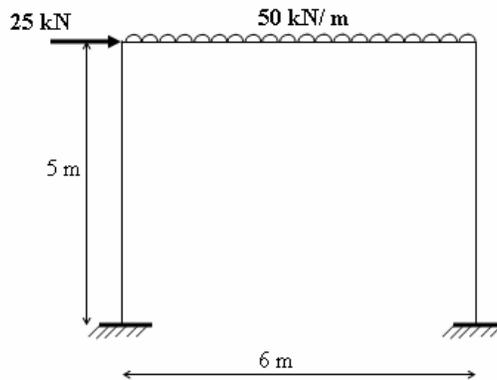

Fig.2
2. Analyze the frame shown in Fig.2 by strain energy method. [16]